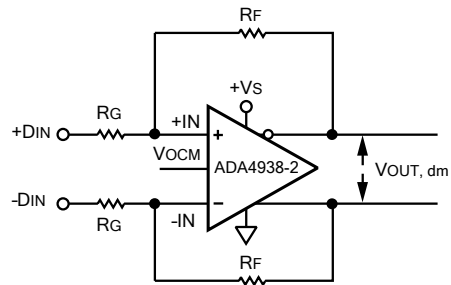

Figure 56. ADA4938 Configured for Balanced (Differential) Inputs
The effective input impedance of a circuit depends on whether the amplifier is being driven by a single-ended or differential signal source. For balanced differential input signals, as shown in Figure 56, the input impedance ( $R_{IN, dm}$ ) between the inputs (+DIN and -DIN) is simply  $R_{IN, dm} = 2 \times R_G$ .
**Table 9. Differential Ground-Referenced Input, DC-Coupled; See Figure 56**